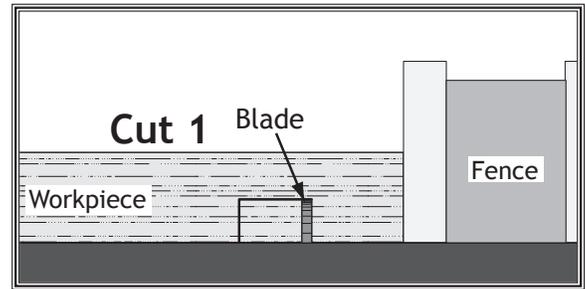

Figure 68. First cut for a single-blade dado.
5. Align blade to cut one side of dado, as shown in Figure 68.